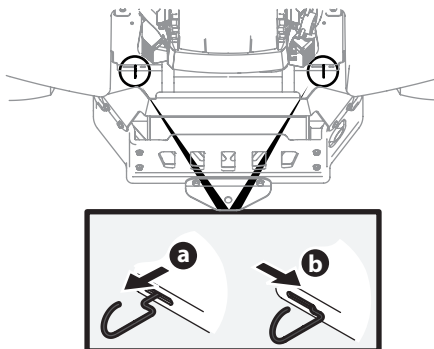

Figure 2-1
- Engage the transmission bypass rods, one on each side of the tractor, to move the tractor manually without starting it. The transmission bypass rods are located on the rear of the tractor, just inside each rear wheel. Engage the bypass rods by pulling each one out (a) and to the right (b) to lock it into place. See Figure 2-1.
- Disengage the bypass rods by reversing steps a & b after moving the tractor. See Figure 2-1.